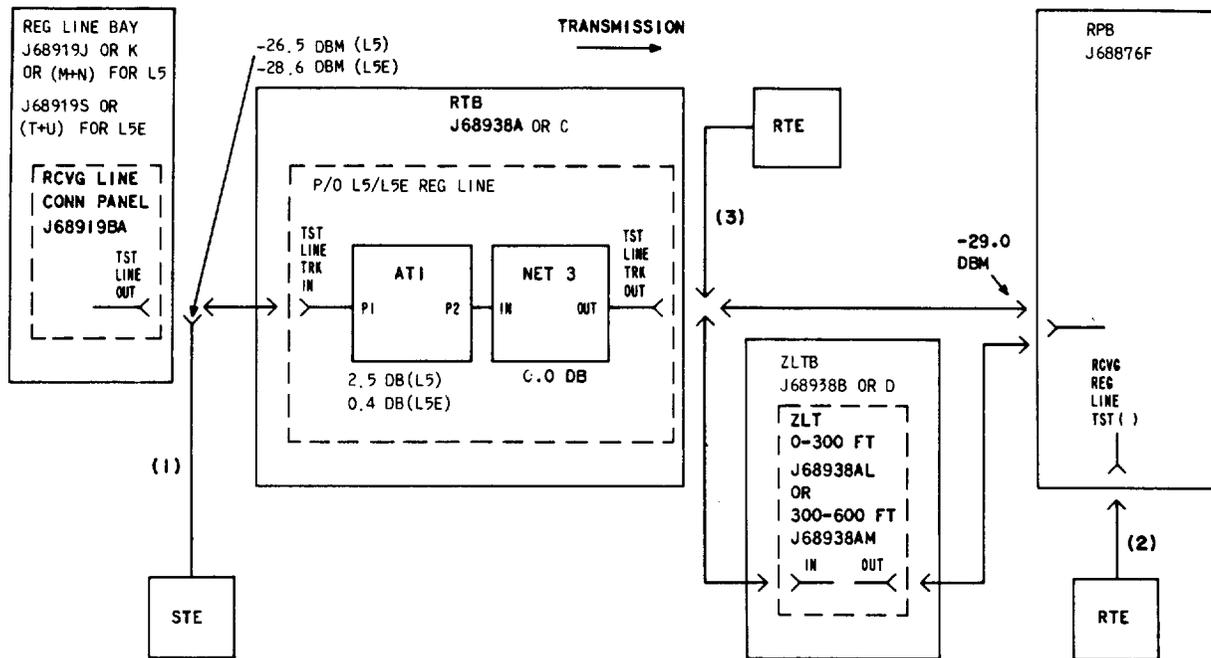

Fig. 13—L5/L5E Regular Line Receiving Test Line Out Trunk Circuit
4	By using office records, locate the RCVG LINE CONN panel of interest in the regular line bay and remove the cable from the TST LINE OUT jack. Connect the STE to the cable [Fig. 13, patch (1)].
5	Connect the RTE to the RCVG REG LINE TST () jack at the RPB [Fig. 13, patch (2)].
- 9 Move the RTE to the TST LINE TRK OUT jack at the RTB [Fig. 13, patch (3)].
- 18 If the requirement in Step 17 is met, move the RTE back to the RPB [Fig. 13, patch (2)], restore the coax to the TST LINE TRK OUT jack at the RTB, and go to Step 19; if otherwise, troubleshoot the trunk between the RTE and the STE and go back to Step 11.